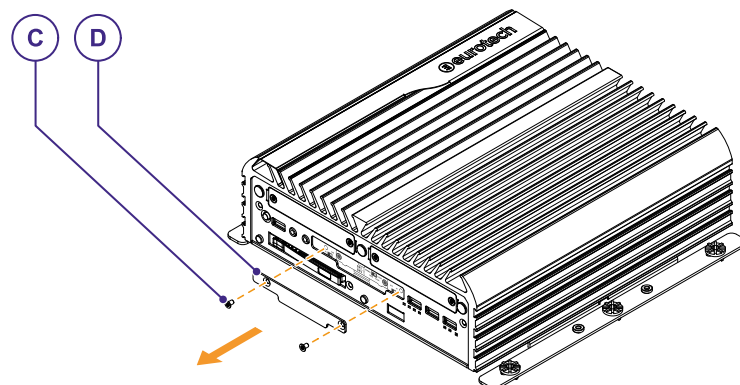

Fig. 6 - Remove the Service Panel Cover **B**
2. Remove the two Torx screws **C** (M3, L = 5 mm) and remove the Service Panel Cover **D** (Fig. 6 below). You can now get access to the Service Interfaces.